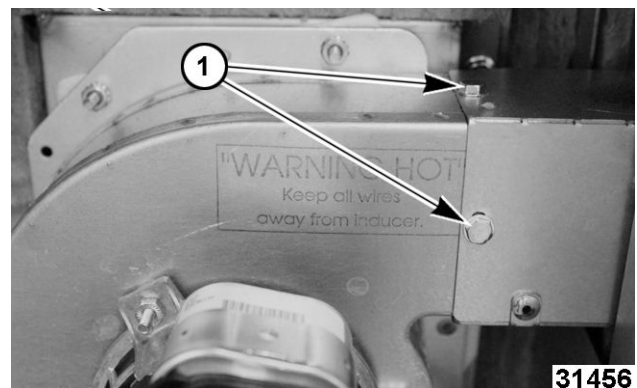

Fig. 102
3. Remove gas flue screws (1, Fig. 102) from blower.